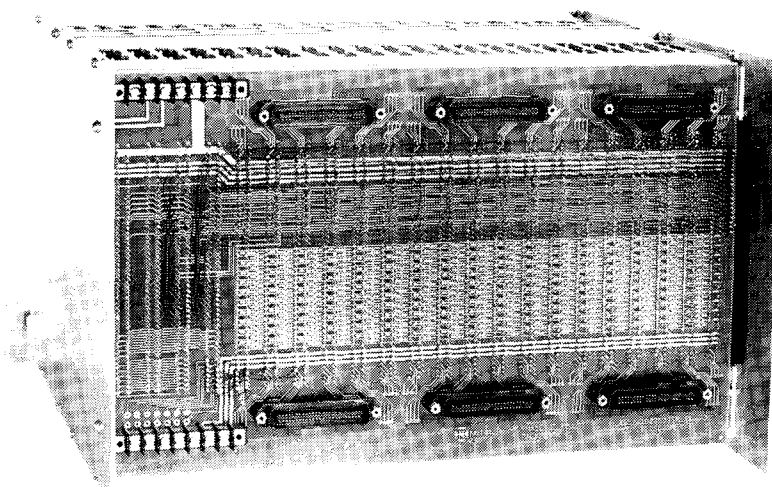

Fig. 2-3 Equipment Shelf
2.09 The equipment shelf (Fig. 2-3) holds up to 22 printed circuit cards which plug into the shelf back plane. On the rear of the back plane are a number of connectors providing interconnections between the shelf and external equipment. In addition to these connectors are a number of screw down terminals allowing shelf connection to the primary power supply unit. The equipment shelf measures 10.75in. (273mm) high, 19in. (480mm) wide, 16.375in. (415mm) deep and weighs approximately 271bs (12.2kg) fully equipped.